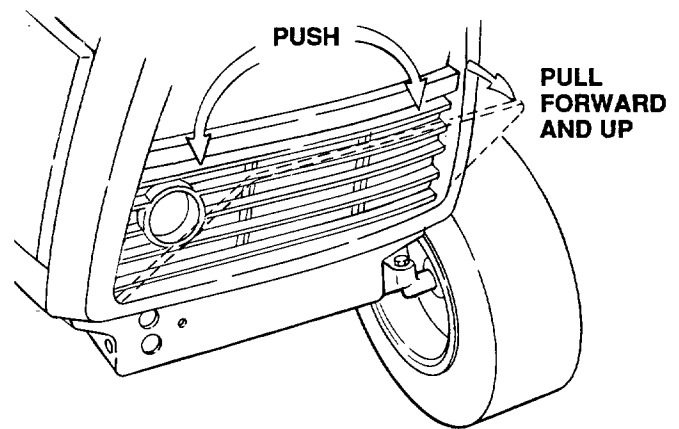

Figure 20
9. Make certain that the backside of the grille insert is clean and unobstructed. Push down on the top of the grille insert and pull forward as shown in Figure 20. Lift the grille insert up removing the tabs from the bottom of the grille housing. Remove by hand any accumulated grass and debris.